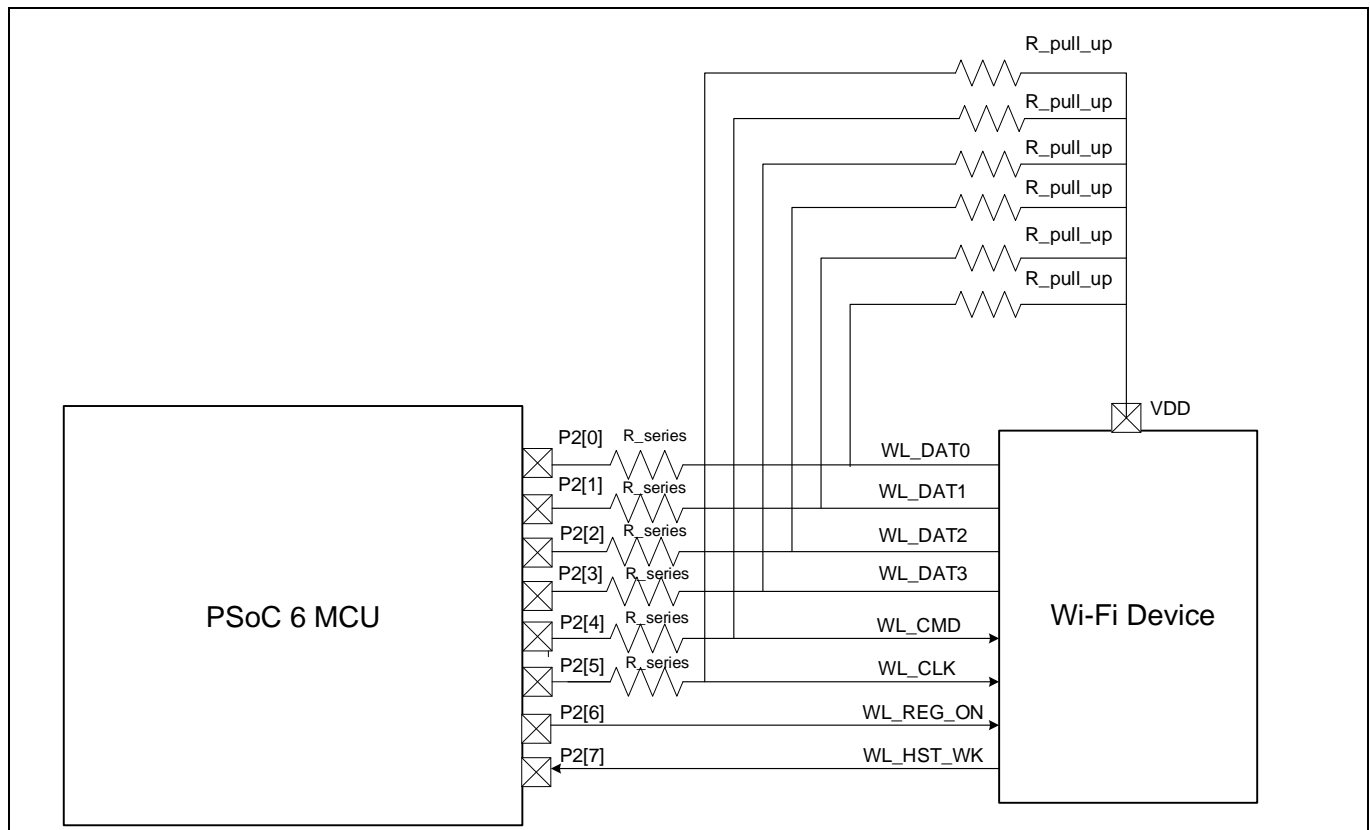
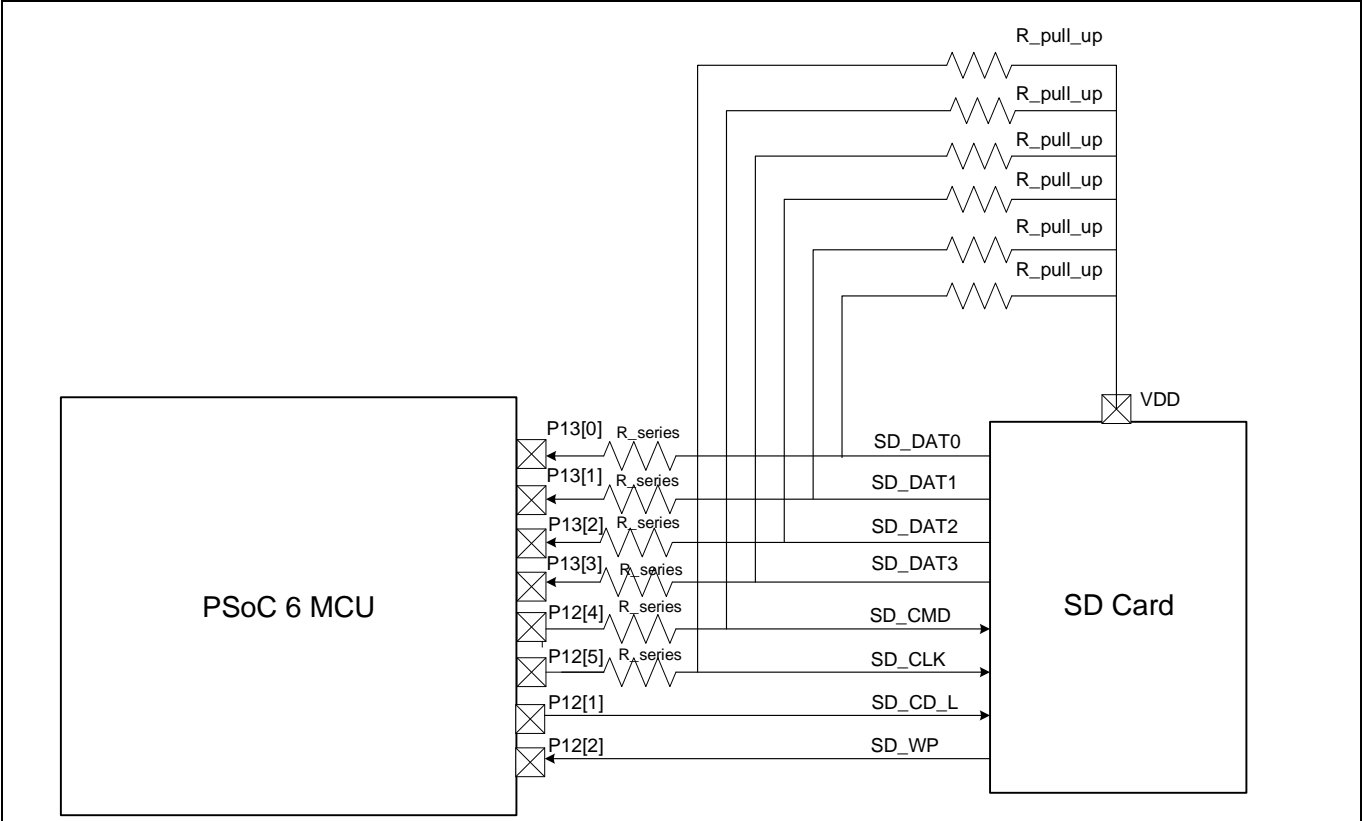

Figure 36 Interfacing Wi-fi Device Using SDHC in PSoC 6 MCU
Figure 37 Interfacing SD Storage Using SDHC in PSoC 6 MCU
CY8C62xA/8/5 devices of the PSoC 6 MCU family have up to two secure digital host controllers (SDHC). The SDHC allows interfacing with embedded multimedia card (eMMC)-based memory devices, secure digital (SD) cards and secure digital input output (SDIO) cards. The SDHC block can be used to connect devices providing the SDIO interface, such as Cypress' Wi-Fi products. **Figure 36** and **Figure 37** shows interfacing of a Wi-Fi device and SD storage with PSoC 6 MCU. It is recommended to have pull-up resistors (R_{pull_up}) in the range of 10 k Ω – 100 k Ω on the SDIO lines. Also, it is recommended to use series termination resistor of 33 Ω on the SDIOs lines.